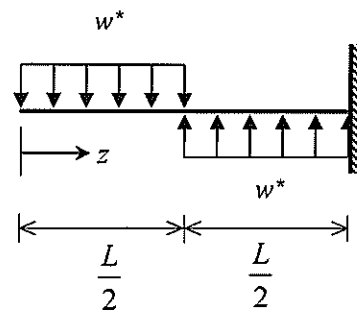

Figure 4a
- (a) Derive equations for the shear force and bending moment distributions for the beam shown in Figure 4a. Sketch the shear force and bending moment diagrams indicating maximum and minimum values and clearly marking the direction of shear distortion and bending curvature. [30%]